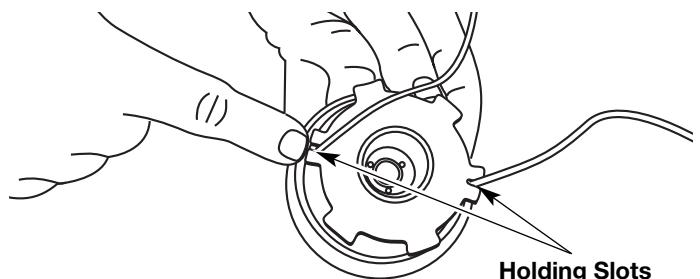

Fig. 34
12. Insert the ends of the line into the two holding slots (Fig. 34).